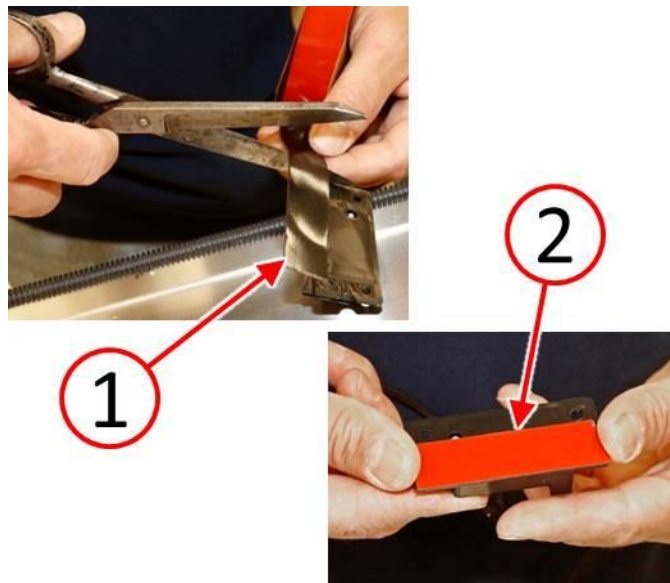

Fig. 22 Apply Attachment Tape To Alarm Sensor
48. Using scissors or equivalent cutting tool, cut one piece of 3M™ automotive acrylic plus attachment tape (1) the full length of the alarm sensor (Fig. 22).
49. Apply the piece of 3M™ automotive acrylic plus attachment tape (2) to the top edge of the alarm sensor (Fig. 22).